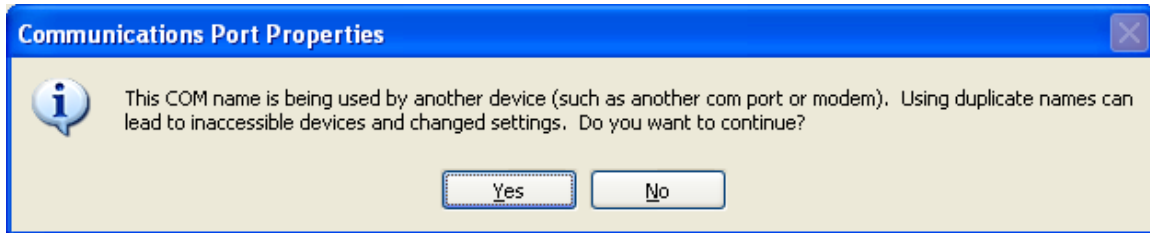

Figure 28 – XP Communication Port Properties Popup.
- e. If you select a COM port that was in use the window in Figure 28 will appear. You can click yes if you have not installed other USB devices that use virtual COM ports. Otherwise check to make sure the other devices are not using the selected COM port.